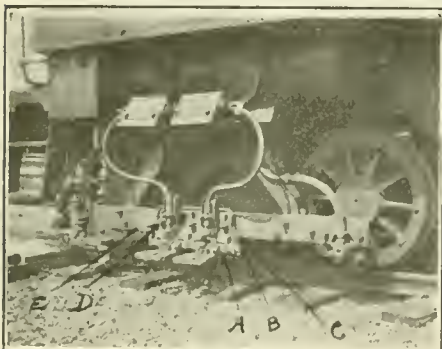

FIG. 3.
A.—Referring to Fig. 3, spiral springs (A) are used, through which passes the bar (B), this bar being held in the casting (C).
A.—In the type of third rail shoe construction shown by Fig. 3 an adjustment is provided so that by loosening the bolts (D), of which there are three, the casting can be raised or lowered, giving the necessary adjustment.
A.—No. Many times there are no adjustments in the casting (C) referred to, but the adjustment is taken care of by adjustment in the support which carries the third rail shoe beam.
A.—The third rail shoe beam is shown by (E) on Fig. 3, and is the beam to which is fastened the casting carrying the third rail shoes.
A.—Beams must be mounted on brackets, which are carried on a truck member which is stationary, or directly on to the journal boxes on locomotives which are constructed differently from those shown in Fig. 3, so as to keep the shoe beam at a constant distance above the rail. The shoe beam should not be hung from any part of the locomotive which is liable to variation in distance from the rail on account of spring variation.
Q.—Fig. 3 shows two fuse-boxes mounted on the truck. What is the object of more than one fuse-box?
A.—Referring to Fig. 3 the trolley-box is shown with the front open and shows the method used in clamping the trolley trolley into position. The trolley-box when correct draw in the wedge-shaped blocks U, and the jaws V, thereby clamping the trolley trolley in position. The leads carrying the current enter the jaws W, at the back of the trolley-box.